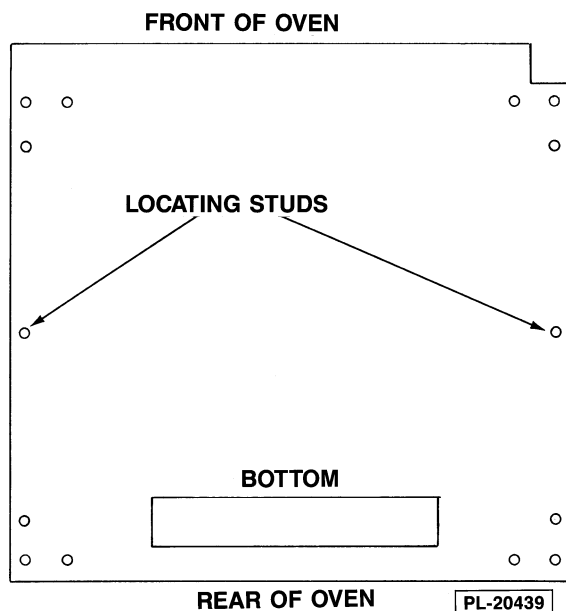

Fig. 2
3. Install the two locating studs (included in leg stack set) into screw plates on underside of upper oven (Fig. 2).